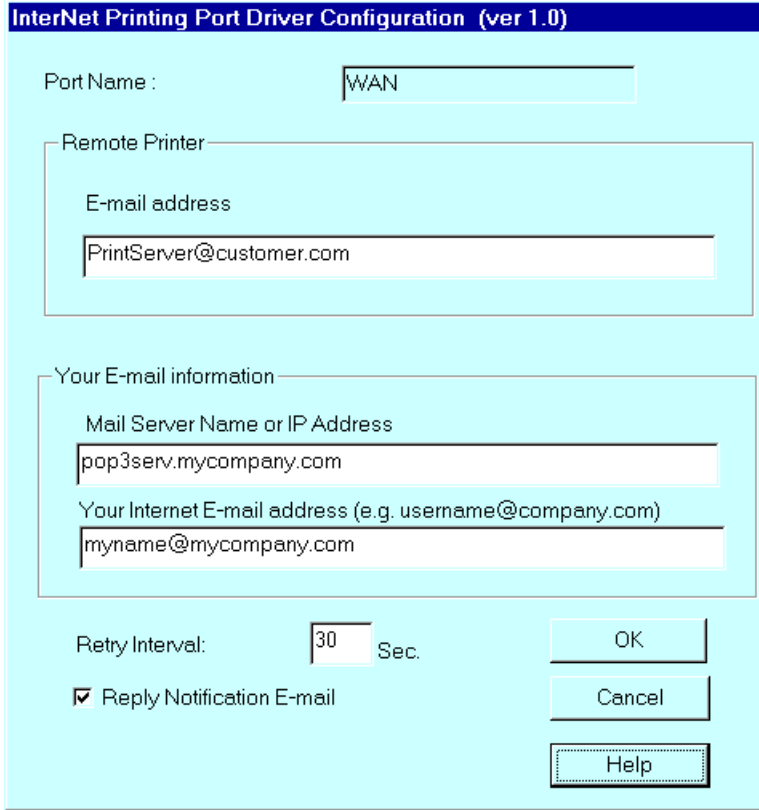

Figure 38: InterNet Printer Port
- Using the Windows *Port Settings* or *Configure Port* facility will reveal the same *Configure Port* screen shown in *Figure 38: InterNet Printer Port*.